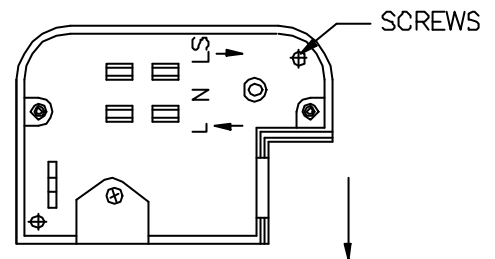

FIGURE 8
- (3) Make use of the base cover as a template to mark the position of two screw holes on the wall. Drill the wall and screw the base cover onto the wall using suitable plastic wall plugs and screws provided. (FIGURE 8).